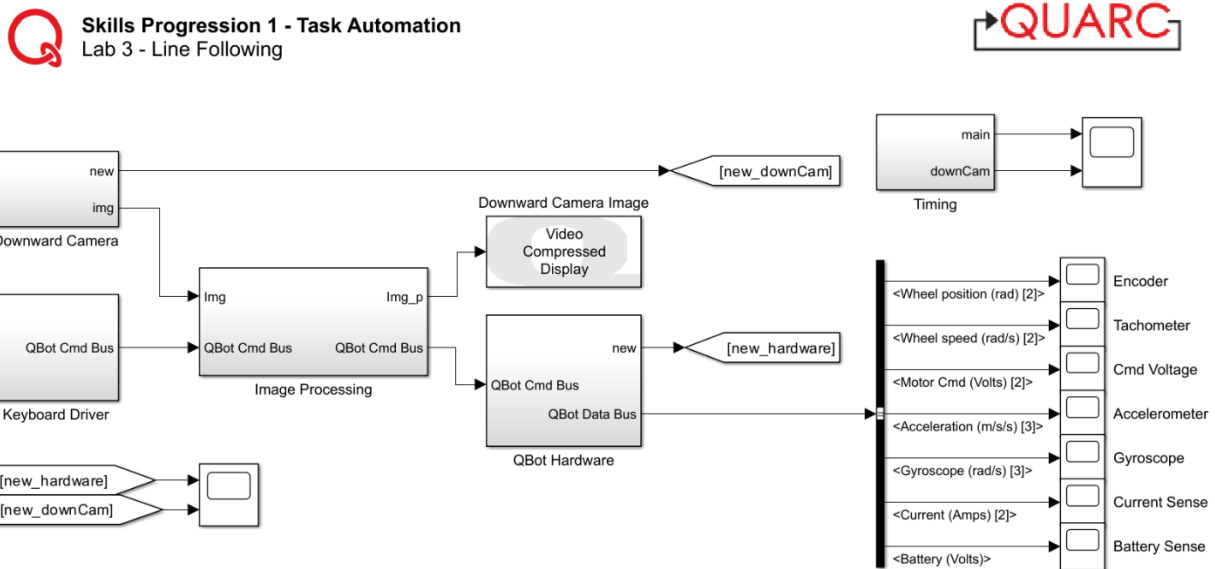

Figure 1. Line Following Simulink Model
3. Open the Simulink Model line_following.slx, as shown in Figure 1. The loading of the Simulink model also triggers the setup script for QLab. When the script is run successfully, the QBot and the Environment should be spawn in QLab and User LEDs on the virtual QBot will turn white, as shown in Figure 2.
10. You should now have properly highlighted your area of interest. Stop the code and delete the purple Display area and all 4 blocks in it. The blocks at the top of this subsystem create the **Downward Camera Image** block shown as part of figure 1. This output will highlight the area of interest as red on the full undistorted original image. Run your code to verify this.